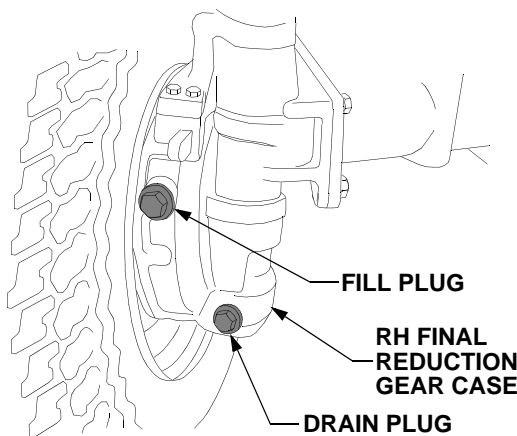

Figure 49
- Remove the fill plug and drain plug from the gear case and drain the oil. See Figure 49. After the oil has drained, reinstall the drain plug.